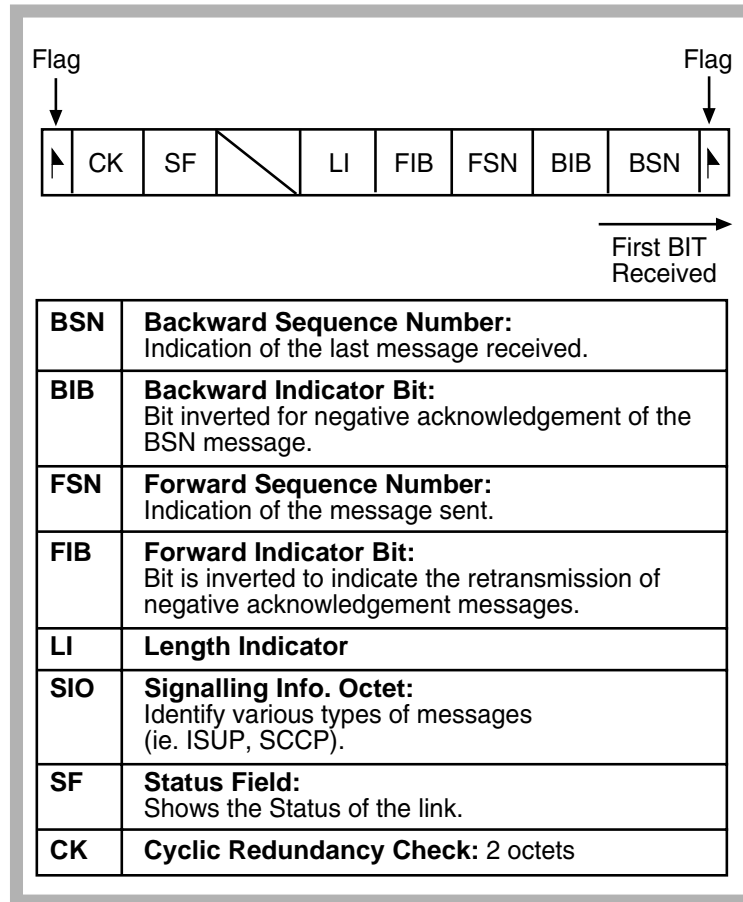

Figure 237 LSSU Message Structure
- *Link Status Signal Unit (LSSU)* - LSSUs are used to indicate the status of a node's level 2 message handling capabilities over a specific link. They are used to inform other nodes in the event of congestion, outage, link reset, etc. A description of each field is shown in Figure 237.